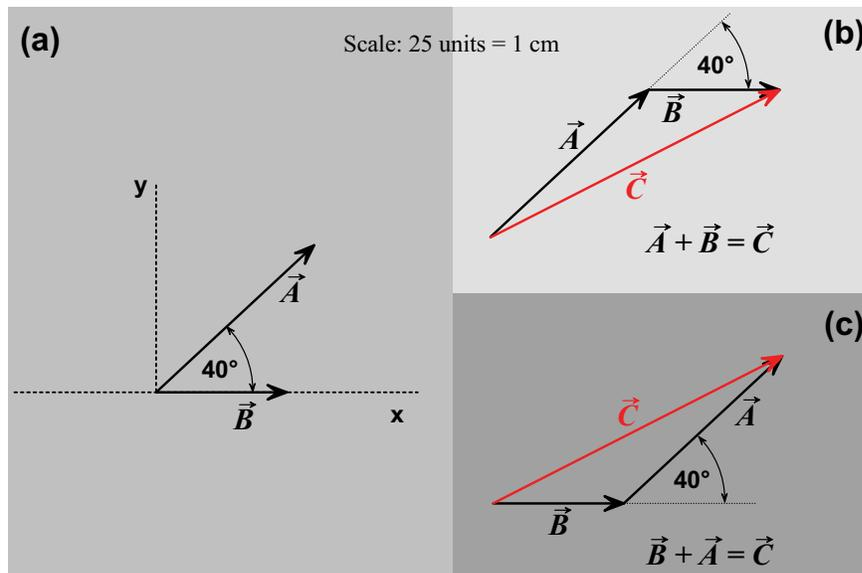

Figure 1: Graphical addition of two vectors
Figure 1: A traveling wave in a string at successive times. In each picture, the black dots represent the same two points on the string while the arrow points to the propagating crest with constant phase.
The graphical addition of two vectors is illustrated in Figure 1. A suitable scale must be chosen, so that the diagram will be large enough to fill most of the work space. The scale is written in the work space in the form of an equation, as appears at the top of Figure 1. This is read as "25 units of force are represented by 1 cm on the page".
A 0° direction should also be indicated, for example the x axis in Figure 1(a). Figure 1(b) illustrates starting with \vec{A} , while Figure 1(c) starts with \vec{B} . In each case the second vector is drawn from the head of the first vector (this is the head-to-tail rule). Note that the direction of the second vector is measured from the direction of the first vector as shown in Figure 1(c).
You can think of this process as "walking" along segments of a path. The equivalent walk, or **resultant vector**, goes from the beginning (tail) of the first vector to the head of the last vector. This is the vector \vec{C} shown in Figures 1(b) and 1(c). The length of this vector can be measured and the scale used to convert back to force units. The direction can also be measured, so that the force vector is then completely described.
- (b) Choose a scale so that the sum of the two forces would almost reach across the page. Draw a scale diagram of the two vectors in the "head to tail" position, as in the $\vec{A} - \vec{B}$ portion of Figures 1(c) or 2(b). Complete the diagram so as to determine the magnitude and direction of the resultant, as in Figure 1(c). The resultant is the single force that is the sum of the two original forces.